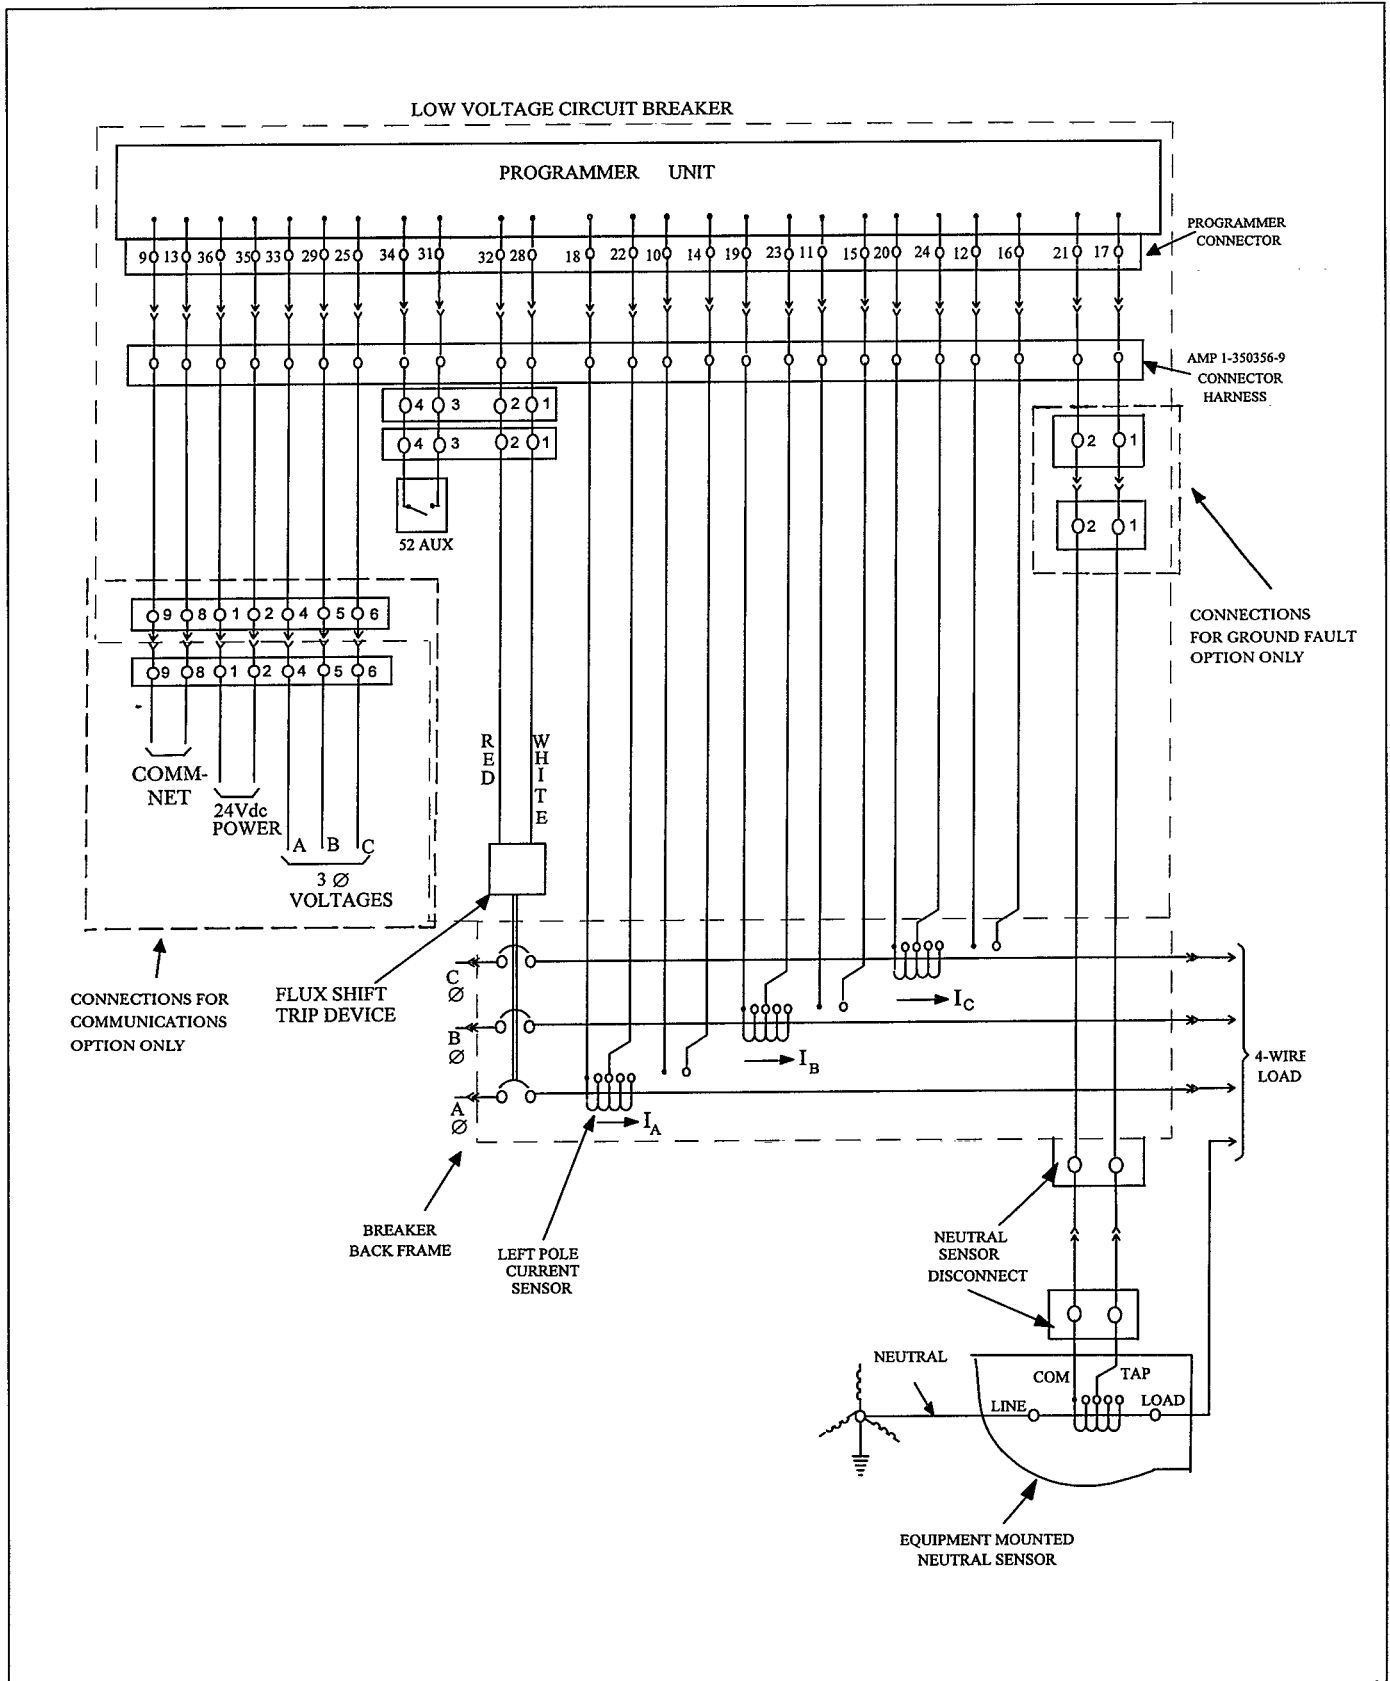

Figure 23. Cabling Diagram - MicroVersaTrip Plus and PM with Ground Fault on 4-Wire Load
Verify that the harness connections to the sensors meet the polarity constraints indicated by the cabling diagram in Fig. 23.
On ground fault breakers serving four-wire loads, check that the neutral sensor is properly connected. See cabling diagram Fig. 23. In particular, the following:
- C. If the breaker's lower studs connect to the supply source, then the neutral sensor must have its load end connected to the source. See Fig. 23.